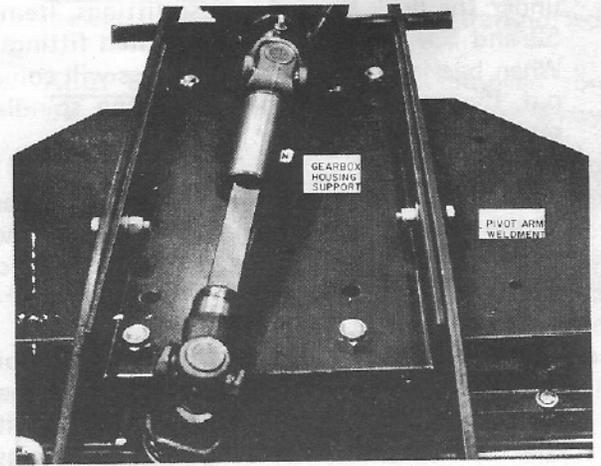

fig 4
7. Bolt pivot arm weldment to gearbox housing support; bolt heads outside, nuts and washers to the inside, fig 4.
8. Apply a light coat of general purpose grease to splined portion of gearbox drive shaft. Slide female end of the drive shaft universal joint onto the gearbox shaft. Be sure that bolt holes align. Fasten the "U" joint to gearbox shaft with bolt and locknut: Items 10, 12, 13 and 19 and fig 4.
4. The drive shaft is lubricated from the top of the mower through the grease fitting on the female end "U" joint. Add grease until it comes out about the rectangular shaft, Items 9, 10 and 11, and fig 4.